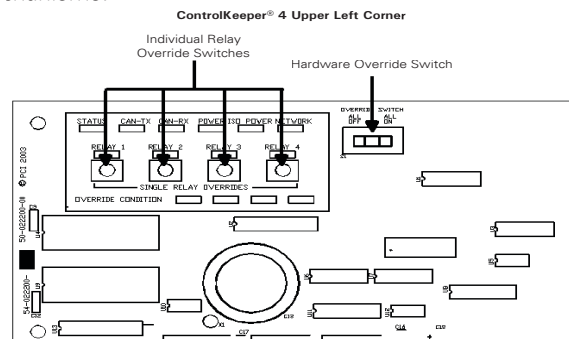

Figure 10. ControlKeeper 4 Status LEDs
There are six (6) system status LEDs that are located in the upper left corner of the ControlKeeper 4. Please refer to Figure 10 for location of these status LEDs. These status LEDs will indicate proper operation or potential problems with the ControlKeeper 4. Normal Operation includes the following LED states.
There are four relay status LEDs, one for each of the relays on the ControlKeeper 4. Please refer to Figure 10 for location of these LEDs. The relay status LEDs are an indication of whether the associated relay is energized or de-energized. If the relay LED is ON, the relay load should be ON. If the relay LED is OFF, the relay load should be OFF.